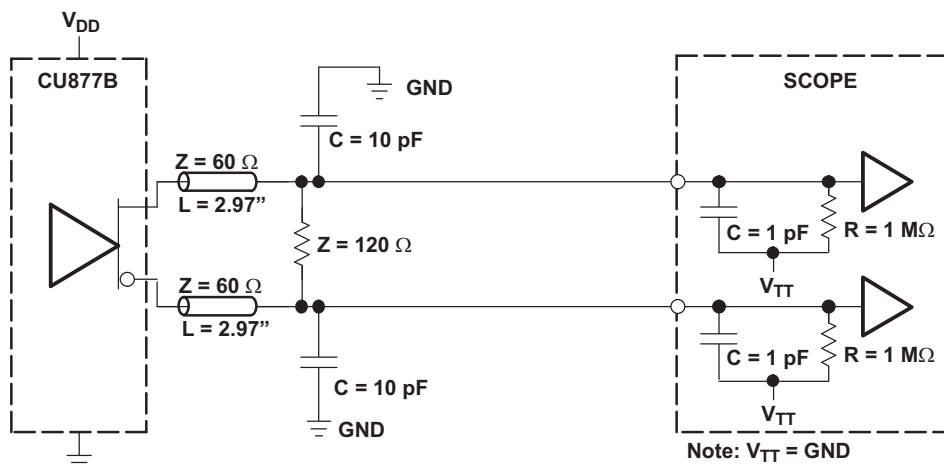
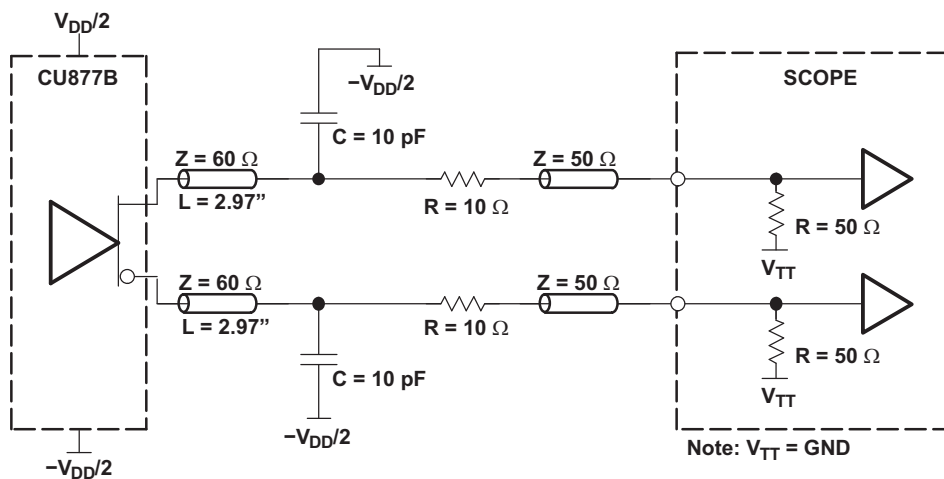

Figure 2. Output Load Test Circuit 1
Figure 3. Output Load Test Circuit 2
- (1) There are two different terminations that are used with the following tests. The load/board in Figure 2 is used to measure the input and output differential-pair cross voltage only. The load/board in Figure 3 is used to measure all other tests. For consistency, equal length cables must be used.
- (2) This parameter is specified by design and characterization.
- (3) Phase static offset time does not include jitter.
- (4) Period jitter, half-period jitter specifications are separate specifications that must be met independently of each other.
- (5) The output slew rate is determined from the IBIS model with a 120- Ω load only.
- (6) To eliminate the impact of input slew rates on static phase offset, the input skew rates of reference clock input CK and $\overline{CK}$ and feedback clock inputs FBIN and $\overline{FBIN}$ are recommended to be nearly equal. The 2.5-V/ns skew rates are shown as a recommended target. Compliance with these typical values is not mandatory if it can adequately shown that alternative characteristics meet the requirements of the registered DDR2 DIMM application.
- (7) Output differential-pair cross voltage specified at the DRAM clock input or the test load.